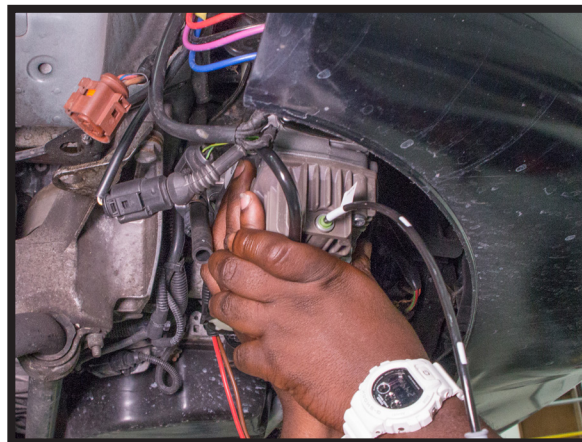

FIGURE 13
2. INSTALL THE COMPRESSOR INTO THE VEHICLE. (FIGURE 13)